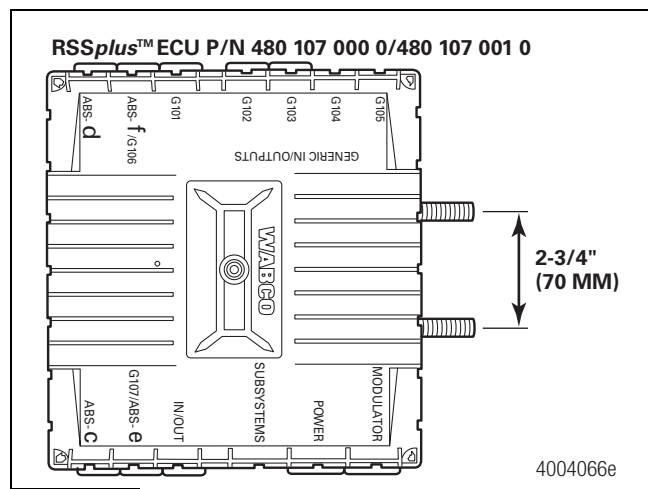
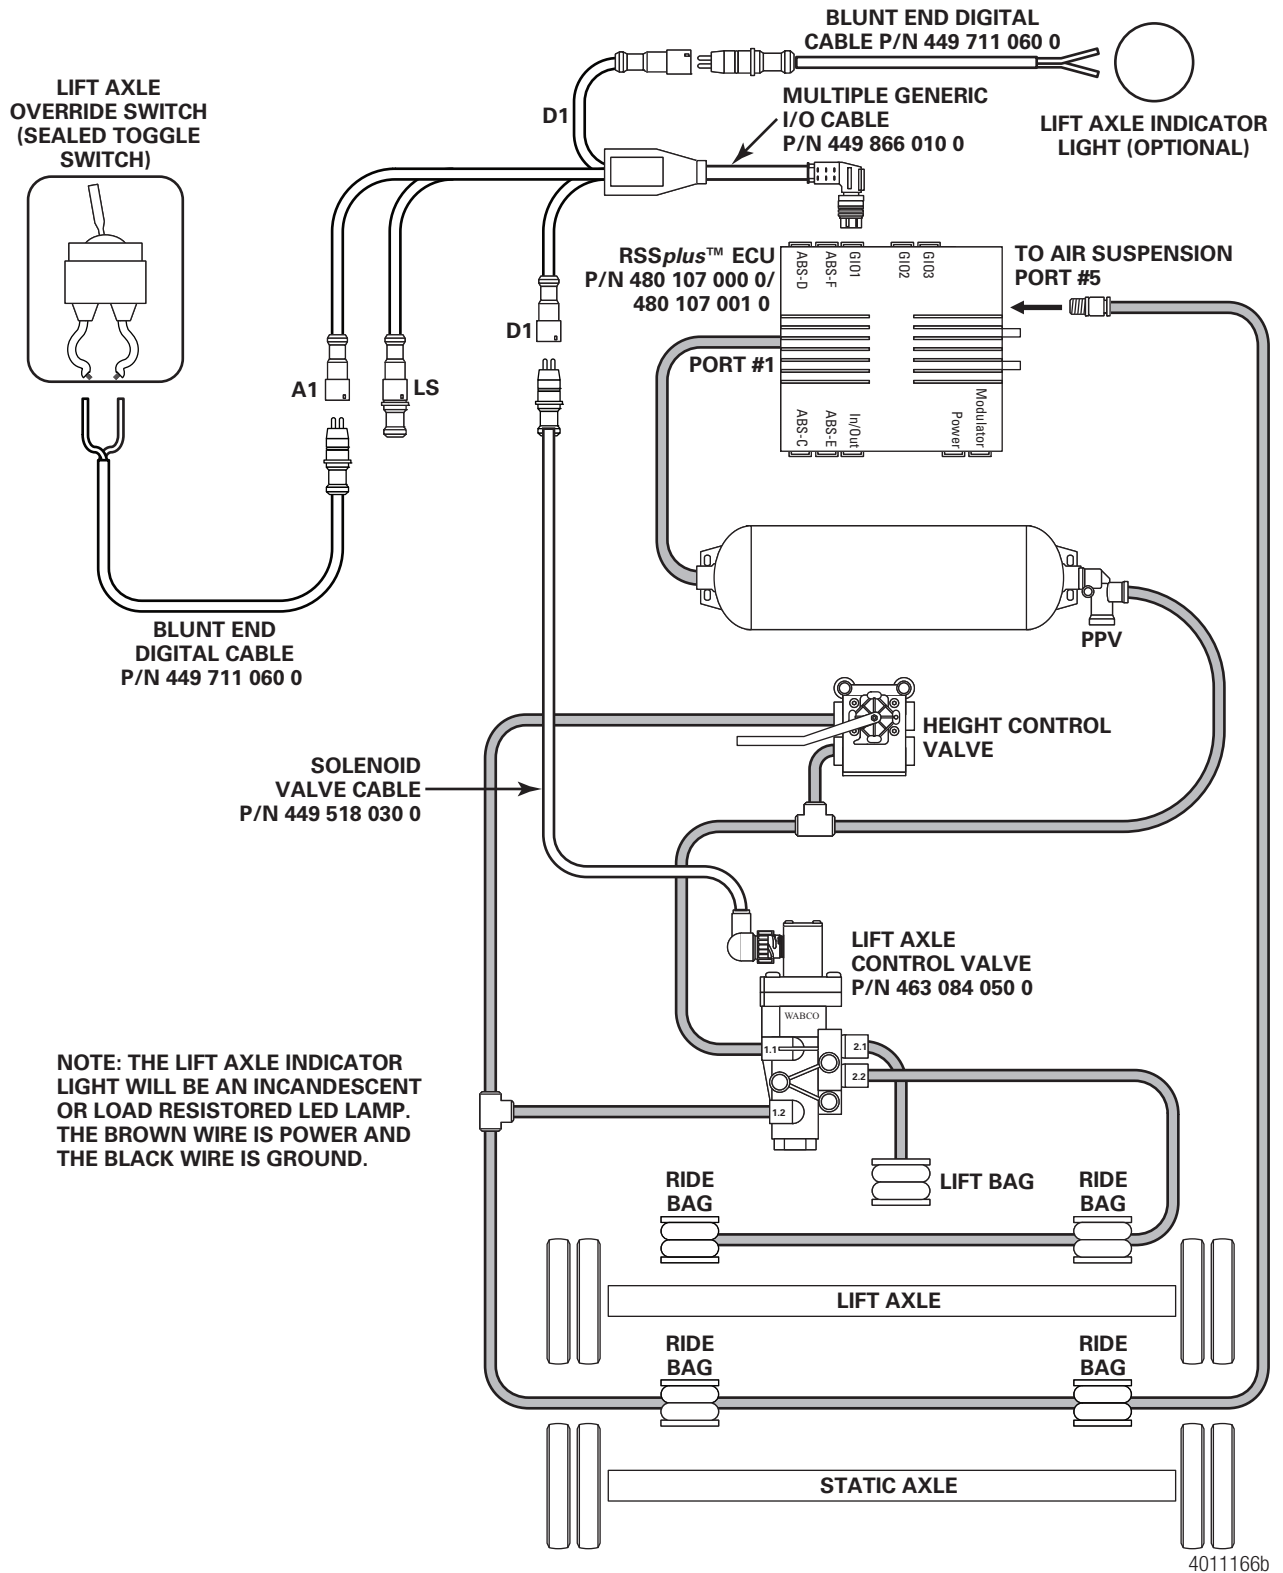
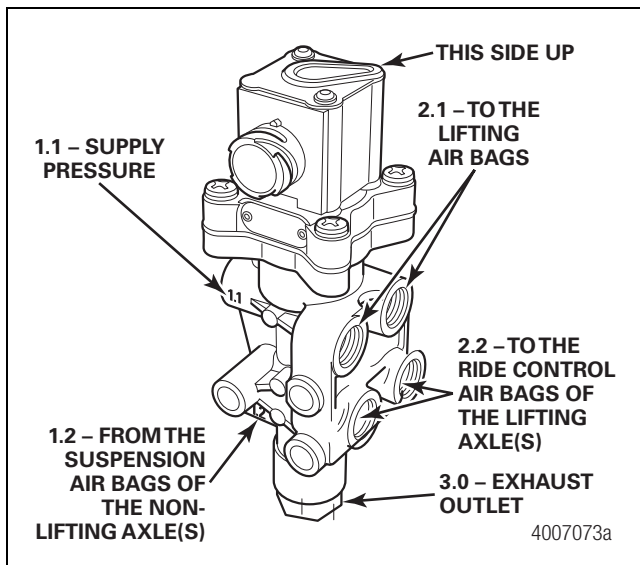
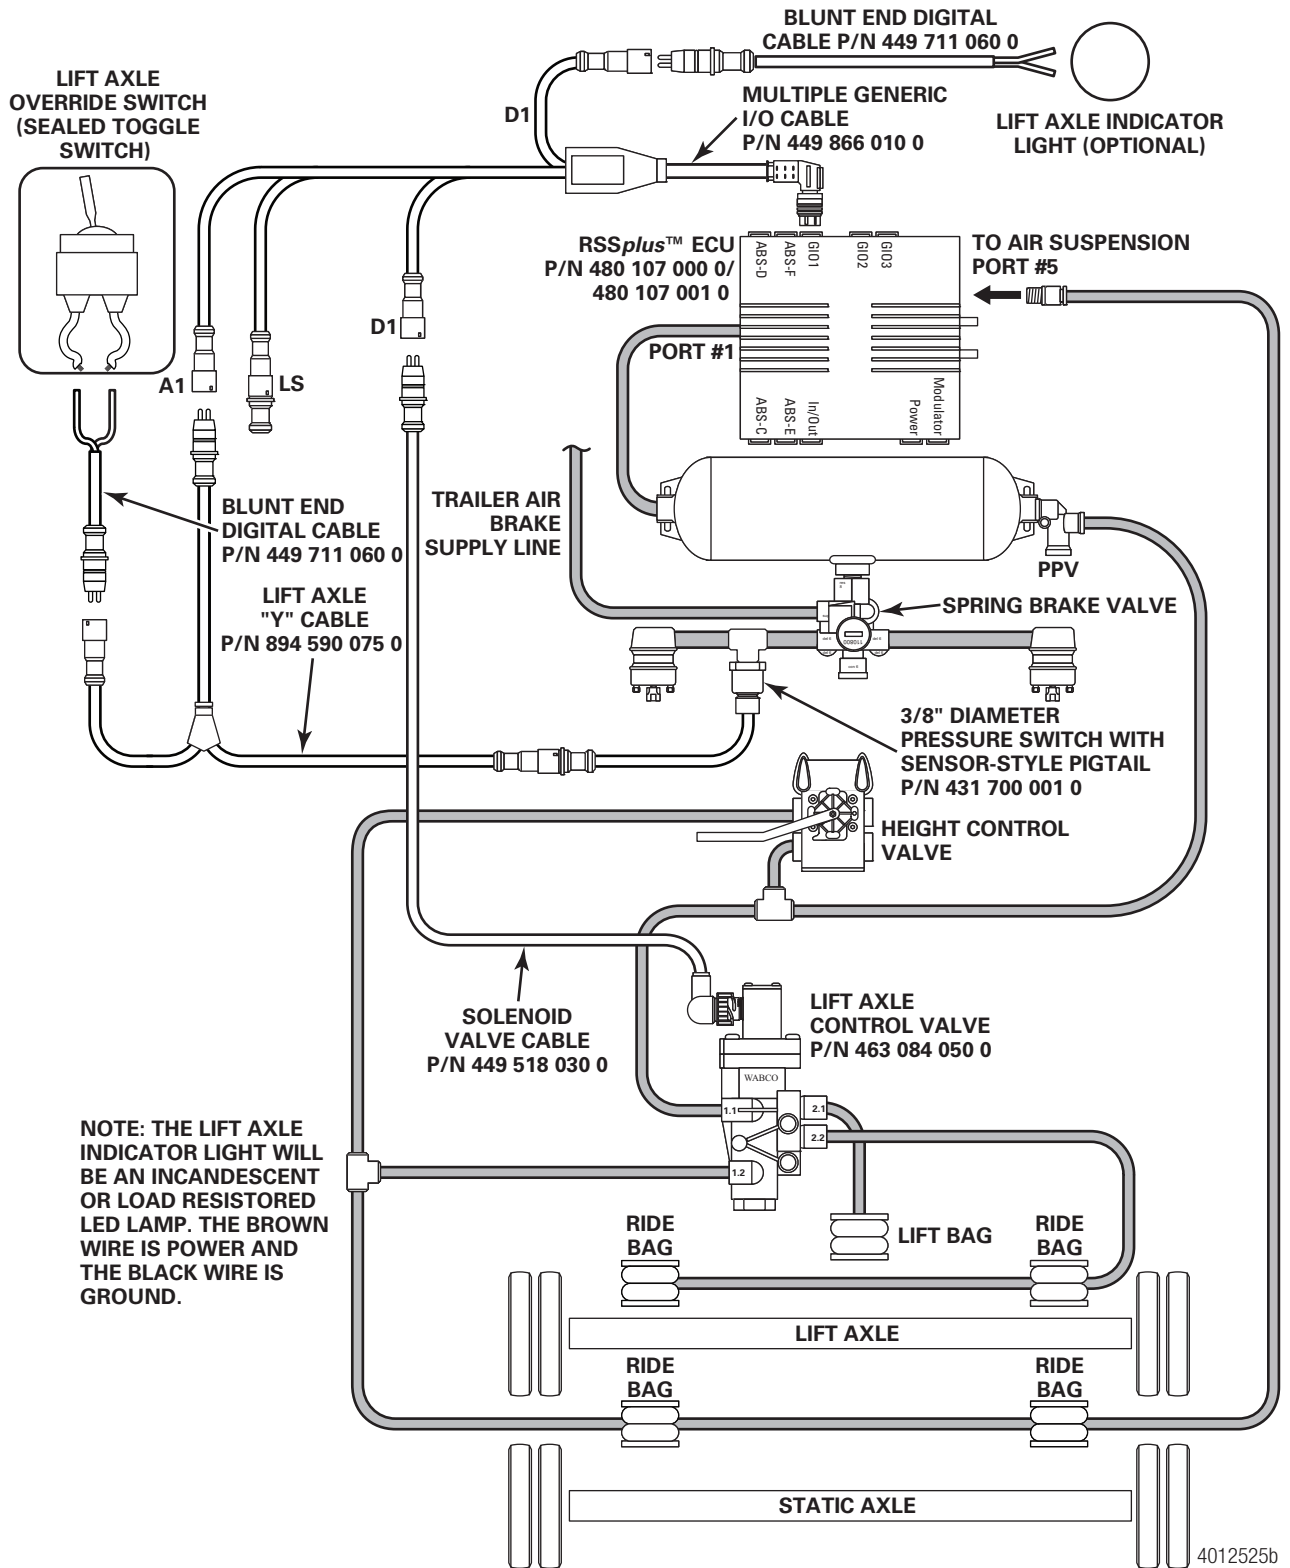

Figure 1
Figure 2
Figure 3
Figure 5
1. Connect the multiple generic I/O cable, part number 449 866 010 0, to the ECU on port GI01 and secure it with the locking tab. Figure 1 and Figure 2.
2. Install the light output cable, part number 449 711 060 0, to lead “D1” on the multiple generic I/O cable. There are two “D1” leads on the multiple generic I/O cable. It does not matter which one is used. Figure 2.
3. Attach the wire leads on the blunt-cut digital cable to a trailer-mounted indicator lamp. The brown wire is power and the black wire is ground. See Figure 2 and Figure 4 for cable illustration. It must be either an incandescent light or a load resistored LED light, similar to the ABS warning lamp, but preferably a different shape and/or color for ease of recognition. The external indicator lamp is not supplied.
4. Connect the lift axle control valve, part number 463 084 050 0, to the bayonet connector on the solenoid cable, part number 449 518 030 0. Turn the collar to lock the connection. Figure 2. Connect the other end of the solenoid cable to "D1" of the multiple generic I/O cable, part number 449 866 010 0. The lift axle control valve pneumatic port hookups are shown in Figure 3.
1. Connect the multiple generic I/O cable, part number 449 866 010 0, to the ECU on port GI01 and secure it with the locking tab. Figure 1 and Figure 4.
5. Attach the wire leads from the blunt-cut digital cable, part number 449 711 060 0, attached to lead "A1" to the trailer-mounted single-pole single-throw switch. It must be a sealed, weatherproof toggle switch. Refer to Figure 2.
4. Connect the lift axle control valve, part number 463 084 050 0, to the bayonet connector on the solenoid cable, part number 449 518 030 0. Turn the collar to lock the connection. Figure 4. Connect the other end of the solenoid cable to "D1" of the multiple generic I/O cable, part number 449 866 010 0. The lift axle control valve pneumatic port hookups are shown in Figure 3.
1. Connect the multiple generic I/O cable, part number 449 866 010 0, to the ECU on port GI01 and secure it with the locking tab. Figure 1 and Figure 5.
2. Install the blunt-cut digital cable, part number 449 711 060 0, to lead "D1" on the multiple generic I/O cable. There are two "D1" leads on the multiple generic I/O cable. It does not matter which one is used. Figure 5.
3. Attach the wire leads on the blunt-cut digital cable to a trailer-mounted indicator lamp. The brown wire is power and the black wire is ground. See Figure 5 for cable illustration. It must be either an incandescent light or a load-resistored LED light, similar to the ABS warning lamp, but preferably a different shape and/or color for ease of recognition. The external indicator lamp is not supplied.
6. Plumb in the 3/8" diameter pressure switch, part number 431 700 001 0, to the delivery line circuit of the spring brake valve as shown in Figure 5. The other end of the pressure switch is connected to either lead of lift axle cable.
7. Attach the blunt-cut digital cable, part number 449 711 060 0, to the remaining unused lead on the lift axle "Y" cable. Attach the two wires of the blunt cut digital cable to a trailer-mounted single-pole single-throw switch. It must be a sealed, weatherproof toggle switch. Figure 5.